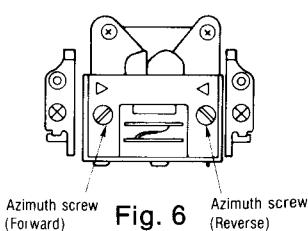

Fig. 6
9. In the forward playback mode, playback the 8kHz signal from the test tape (QZZCFM). Adjust the azimuth screw (Forward) shown in fig. 6 for maximum output L-CH and R-CH levels. When the output levels of L-CH and R-CH are not at maximum at the same point adjust as follows.
10. Turn the azimuth screw (Forward) shown in fig. 6 to find angles A and C (points where peak output levels for left and right channels are obtained). Then, locate angle B between angles A and C, i.e., point where L-CH and R-CH outputs are balanced. (Refer to figs. 6 and 7.)
13. In the forward playback mode, playback the 8kHz signal from the test tape (QZZCFM). Adjust the azimuth screw (Forward) shown in fig. 6 so that pointers of the two VTVMs swing to maximum and a lissajous waveform as illustrated in fig. 9 is obtained on the oscilloscope.